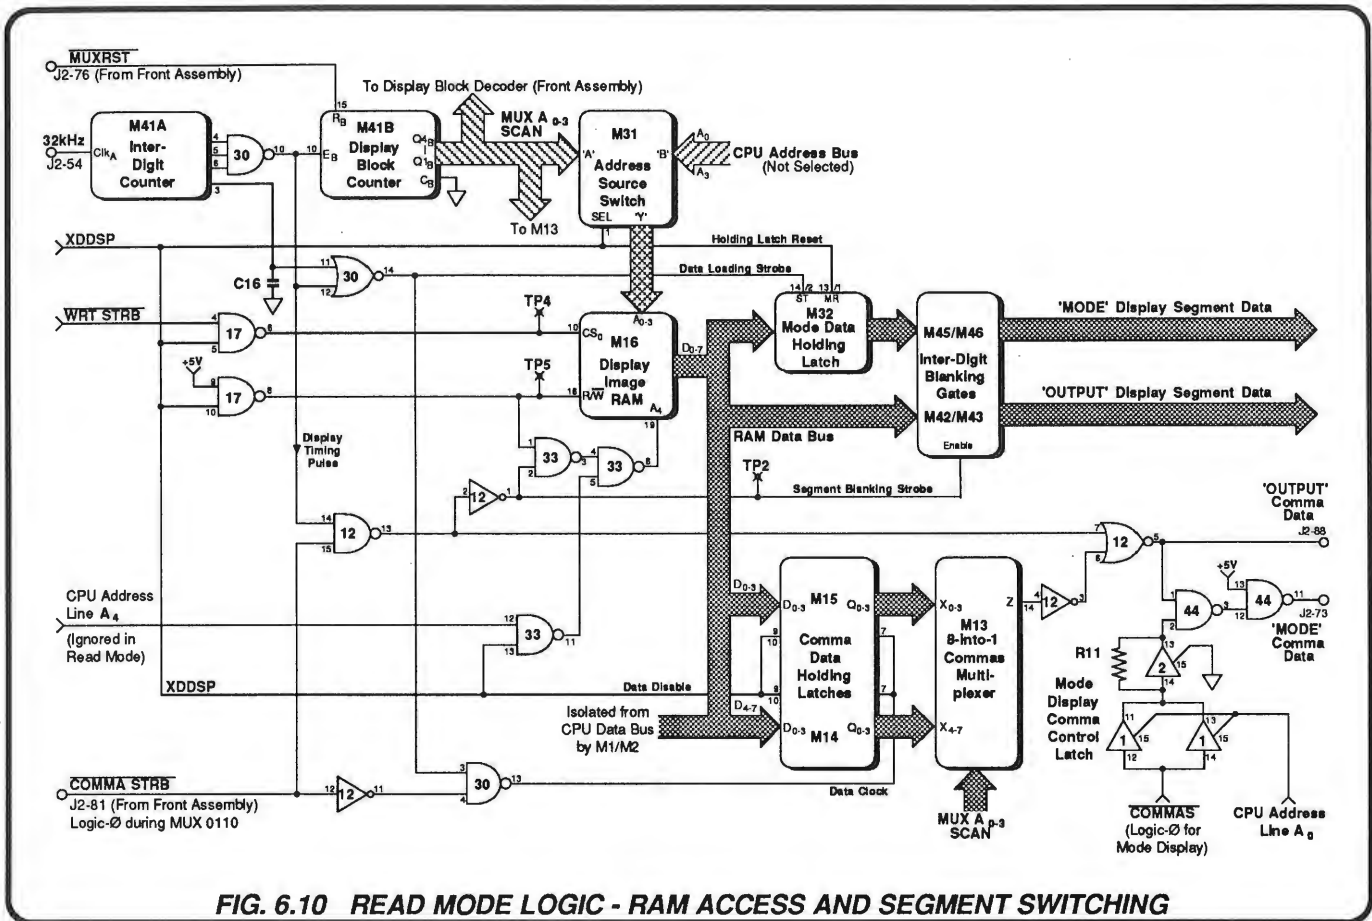

FIG. 6.10 READ MODE LOGIC - RAM ACCESS AND SEGMENT SWITCHING
6.3.4 READ MODE (Fig. 6.10)
6.3.4.2 Block Multiplex Decoding (Circuit Diagram 430558 Page 11.1-2) (Figs. 6.10 and 6.11)
6.3.4.6 Comma Logic (Figs. 6-10 and 6.13)